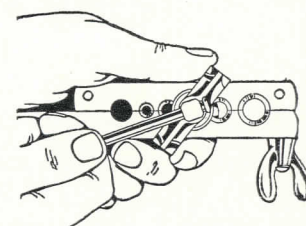

Fig. 2
- ★ Yoke slips straight down over top of bar (Fig. 1), then locks into position with a slight turn (Fig. 2).